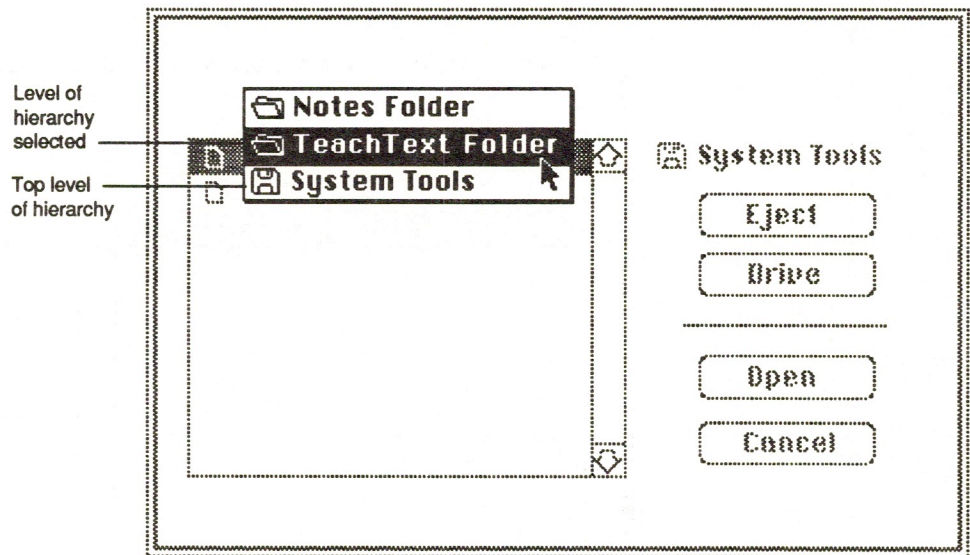

Figure 19. Selecting the TeachText Folder in the dialog box
42. Choose the TeachText Folder, as shown in Figure 19.